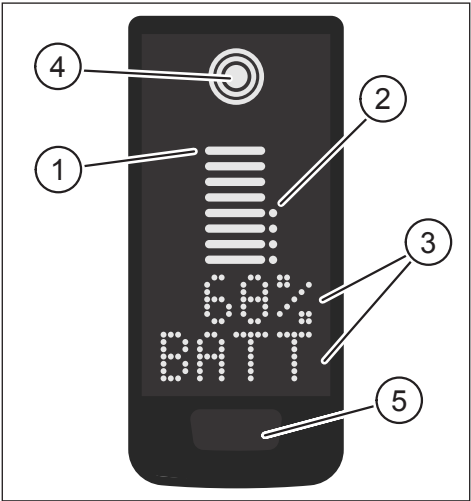
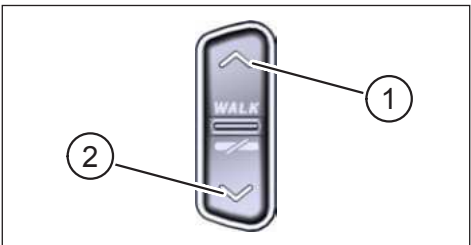

Fig. 1: Operation and indication components on Display
Fig. 2: Operation on the Remote
Pos. in Fig. 1	Description
Pos. in Fig. 2	Description
- ▶ Press and hold the button on the Display (pos. 5 in Fig. 1) and the DOWN button on the Remote (pos. 2 in Fig. 2) for at least 5 seconds.
- With a **double click** press on the button on the Display (pos. 5 in Fig. 1) you switch to the next screen view.